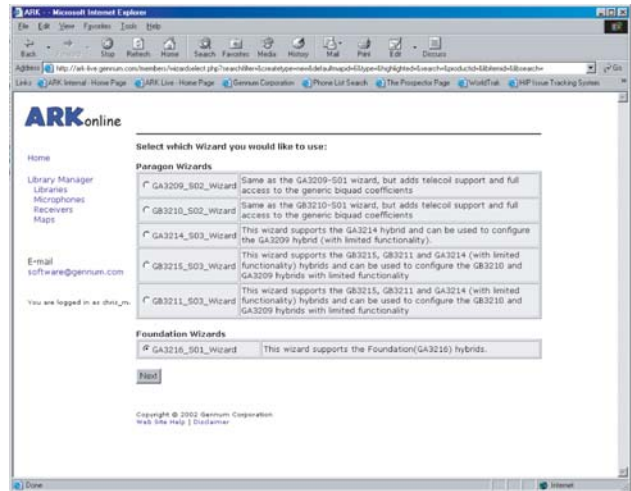

Fig. 5 Selecting a Wizard in ARKonline.
16. The next step is to create a map using the GA3216 Wizard. Choose Library Manager, Maps, Create New Map, and select the GA3216_S01_Wizard. (See Fig. 5) For more detailed information, read the ARKonline Quick Start Guide, document #17931.